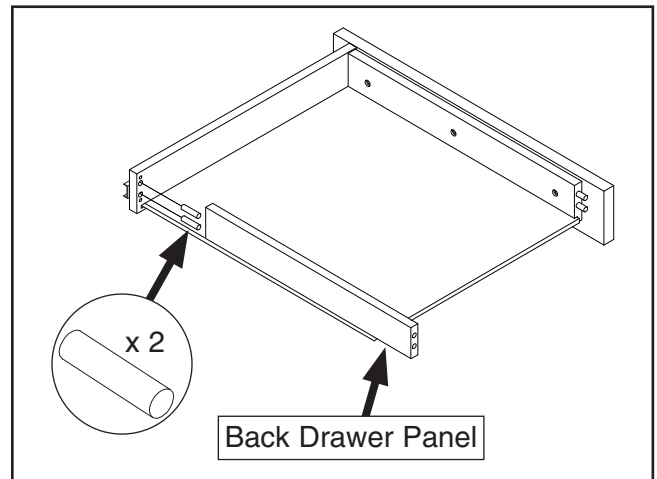

Figure 6. Installing back drawer panel.
4. Install (2) wood dowels in rear holes of right drawer panel, then press back drawer panel onto wood dowels (see **Figure 6**).